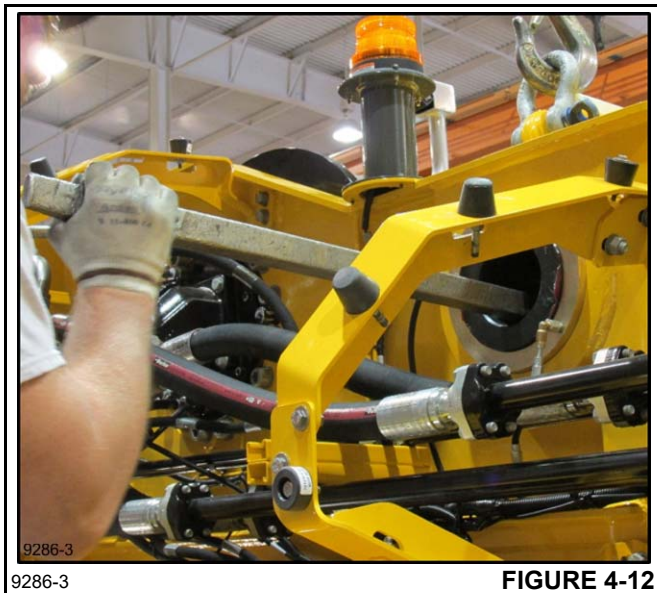

FIGURE 4-12
6. Using a long bar, insert through pin, and tap backside of opposite pin (Figure 4-12). Install pin on non-cab side first. Continue until pin comes through mounting bushing and is flush with the outside.